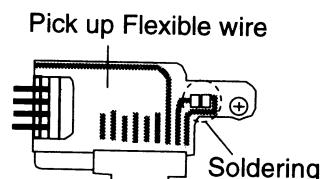

Fig. 11
**CAUTION:** Whenever the flexible wire is disconnected, be sure to remove the soldering in advance as shown in Fig. 11. Otherwise, the CD mechanism assembly can possibly be damaged.